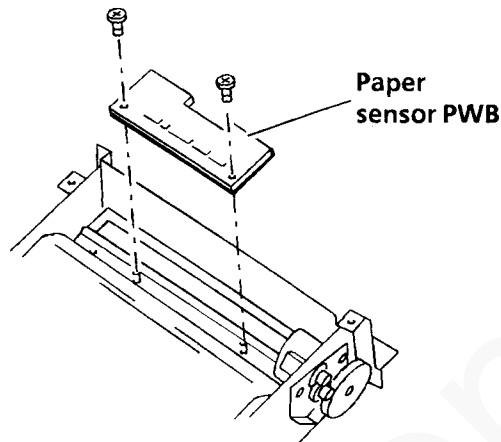

Figure 1. Paper sensor PWB
7. Remove five screws (Figure 1) retaining the paper sensor PWB and remove PWB.